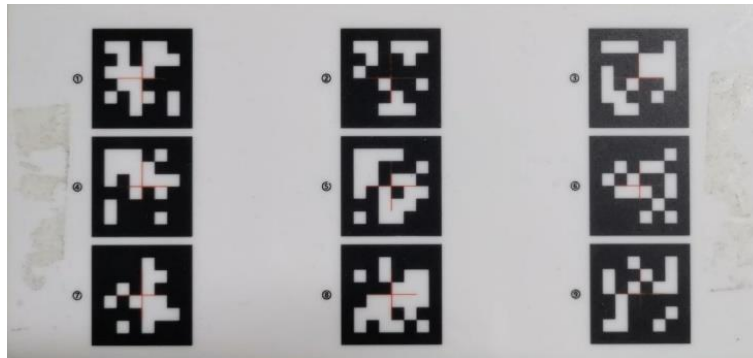
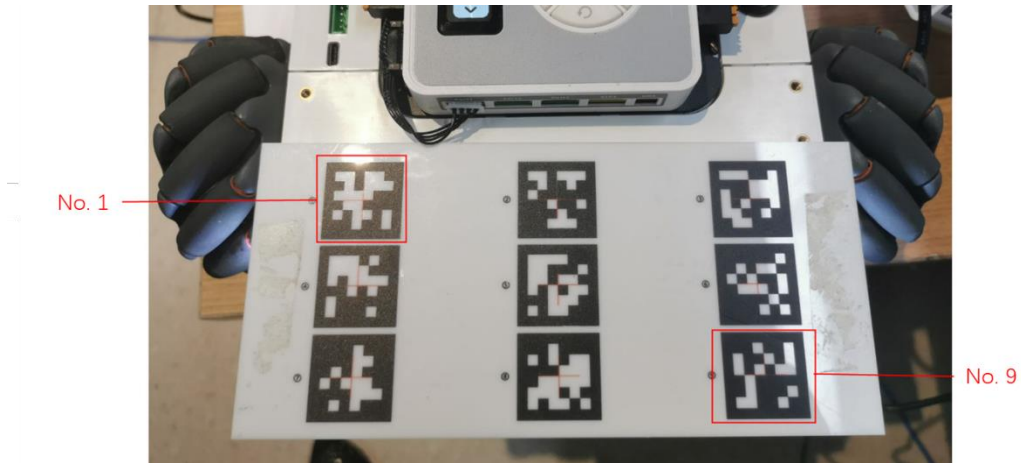

Figure 4.28 Calibration board
Figure 4.29 Place calibration board on pallet of Magician Go
Step 1 The calibration board is shown in Figure 4.28. Place it on the pallet of Magician Go following the direction in Figure 4.29.